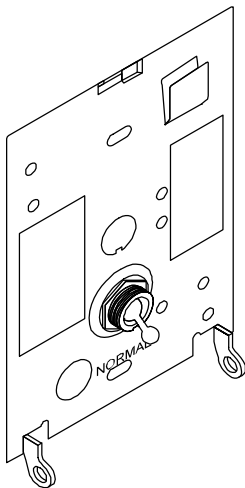

Figure 3: Toggle switch in normal position
2. Set the toggle switch on the backplate to the normal position (Figure 3).